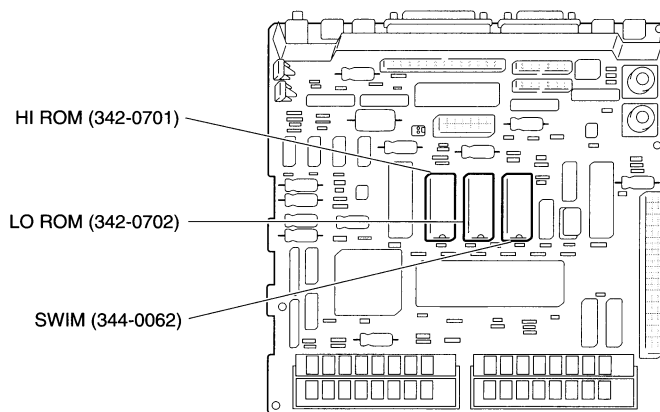

Figure 7 Upgrading the Macintosh SE Logic Board
3. FIGURE 7. Using the IC extractor, remove the IWM chip and the two ROM chips from the logic board.
4. FIGURE 7. Install the SWIM chip and the two new ROMs as indicated in the figure. The notch at the end of each SWIM chip and ROM should face the front of the logic board.